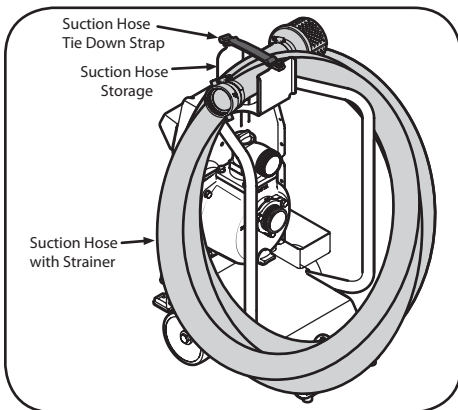

Figure 3-1
1. Wrap the suction hose with strainer around the suction hose storage and secure it using the suction hose tie down strap. See Figure 3-1.